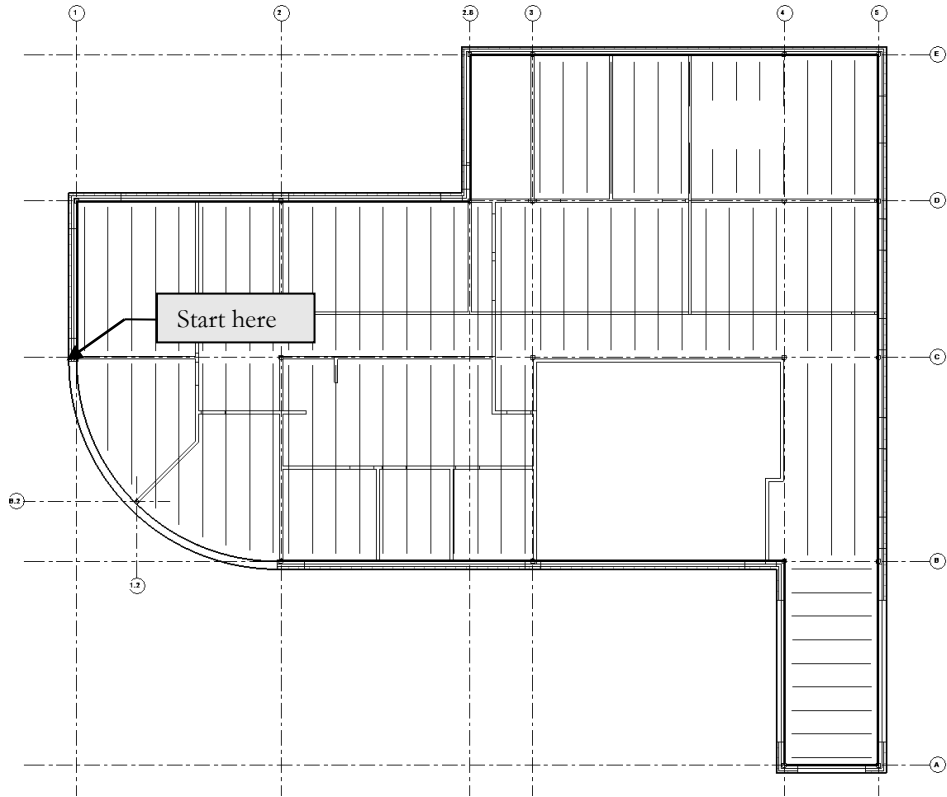

FIGURE 7-5.3 Level 1 slab and foundation plan; perimeter walls added
14. Begin drawing the foundation wall around the perimeter of the building (Figure 7-5.3).